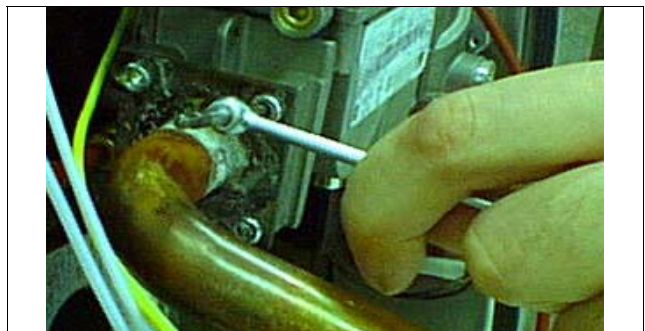

Figure 19
- C) Loosen, without removing, the 4 screws that fix the gas supply pipe to the valve (Figure 19).